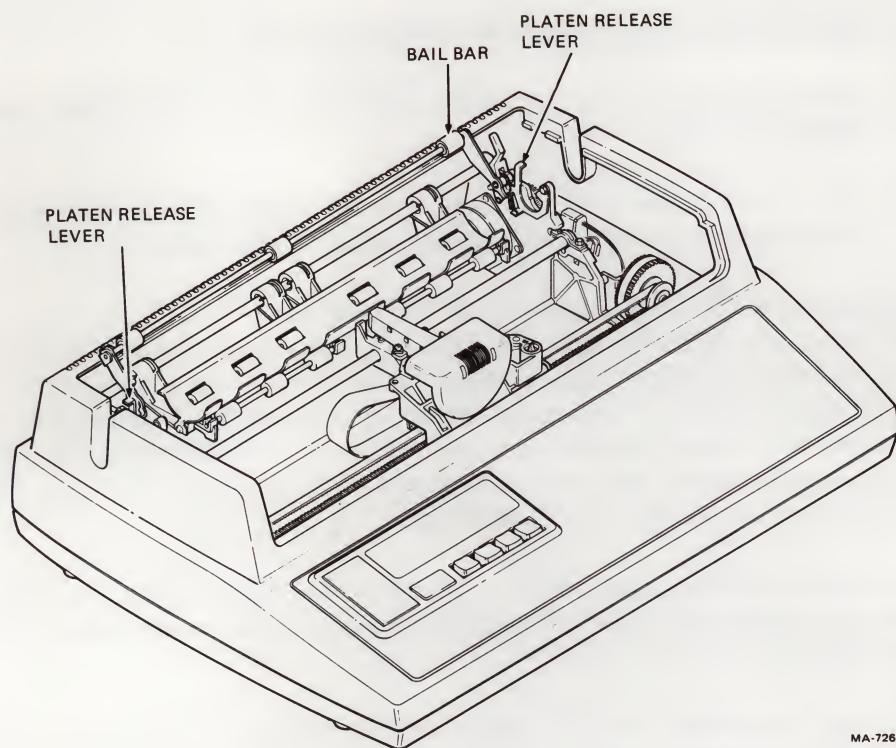

Figure 8-5 Platen Removal
5. Lift the bail bar to gain access to the platen. Remove the platen by pressing the two platen release levers at the same time. Lift the platen straight up (Figure 8-5). Lower the bail bar to its original position.